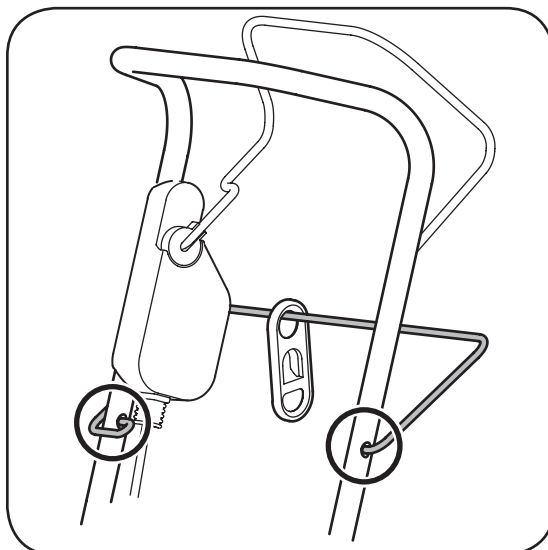

Figure 3-3
3. Attach the cord guide bar with extension cord retainer to the upper handle as shown in Figure 3-3.